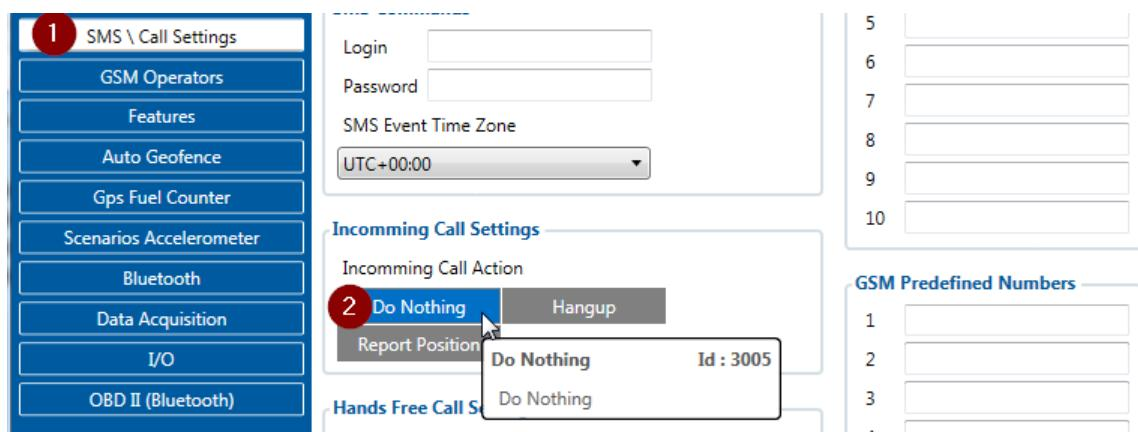

Figure 3. Incomming Call Action settings.
9. Go to “SMS \ Call Settings” in left menu and set “Incomming Call Action” to “Do Nothing” visible at **Figure 3**.